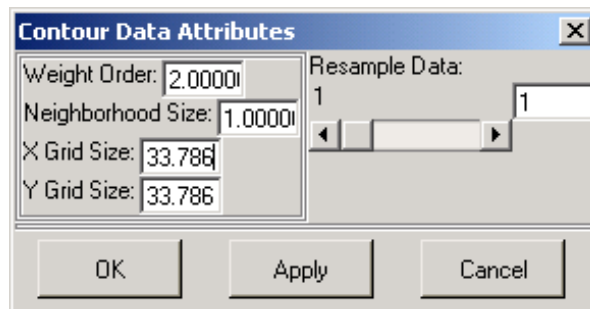

Figure 4-22 The Contour Data Attributes dialog
- **Data Attributes** — Brings up the **Contour Data Attributes** dialog as shown in Figure 4-22. Your original one-dimensional data is gridded into three two-dimensional arrays before contouring occurs using PV-WAVE's GRIDN function. The attributes controlled through this dialog are parameters used for the GRIDN call. For more information on GRIDN, refer to the *P.V.-WAVE Reference*. Additionally, the **Resample Data** option allows you to resample your original data in order to reduce the total size of your data set for faster contour plotting.